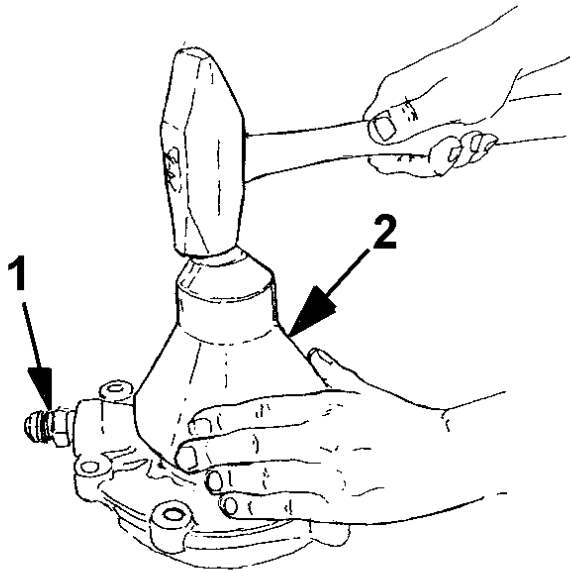

Figure 10 Install New Input Shaft Seal
15. Install new input shaft seal, using Meritor oil seal driver Part Number R4422402, on the new input cage (Figure 10). Prelube with SAE 50 synthetic oil.
16. Remove male fitting from the old cage (Figure 10, Item 1), chase the threads if needed, apply appropriate pipe thread sealant to the first three threads and install in the new input cage. Tighten to 35 to 50 Lbf-ft (47 to 68 Nm).